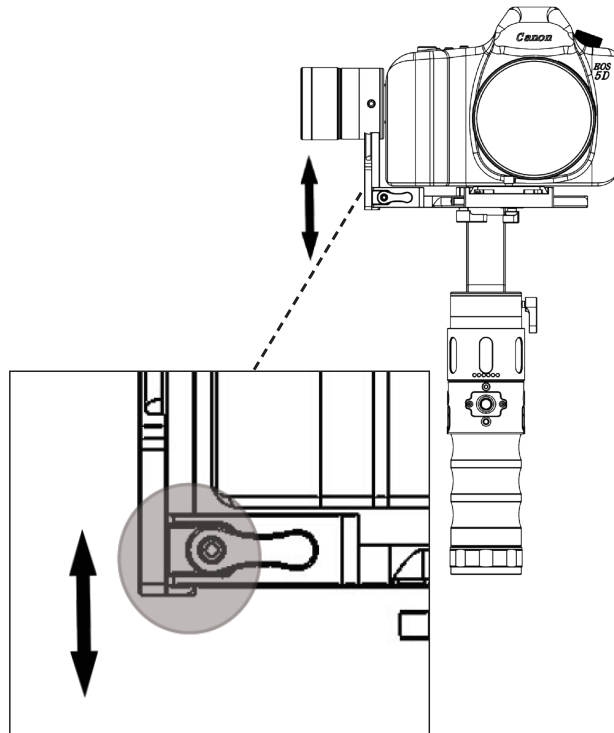

Fig. 7. Pitch balance adjustment
- Loosen the camera plate M4 thumb screw to adjust the pitch level (M4 thumb screw – in Fig. 7)